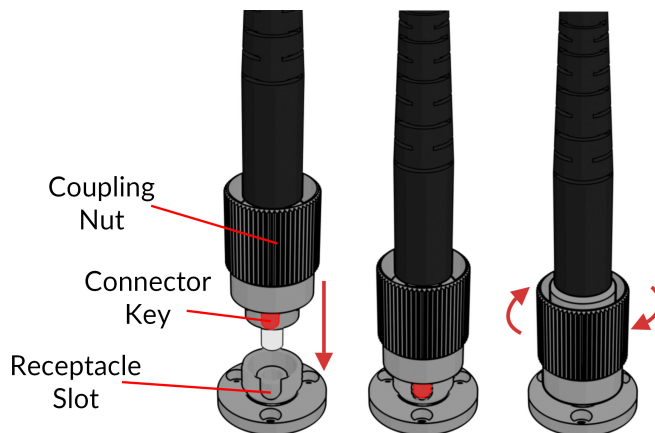

Figure 4.8: FC connector, Fiber Installation
2. With an FC connector, the connector key must be oriented to enter within the receptacle slot to ensure proper connection (Fig. 4.8).